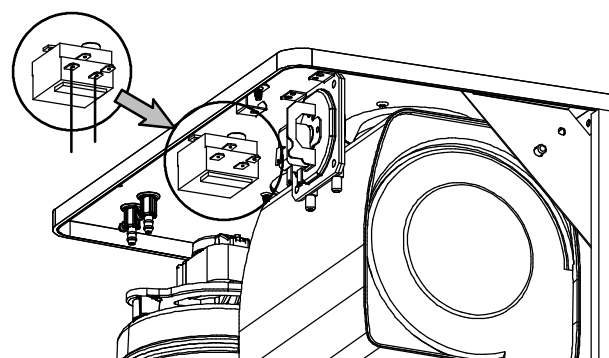

Fig. 83
**Warning: to correctly connect the Flue thermostat, refer to Fig. 83 and Fig. 70a or Fig. 70b for the correct wiring.**